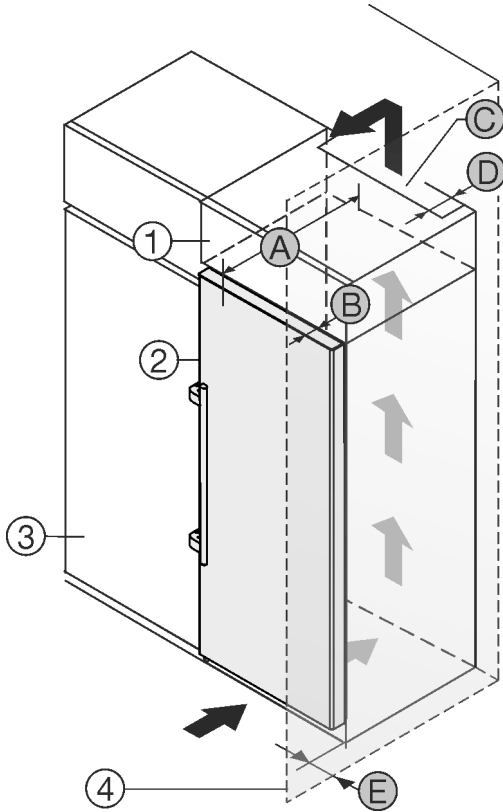

Fig. 2
You can place the appliance directly beside the kitchen cabinet Fig. 2 (3).*
There must be a ventilation shaft at the depth Fig. 2 (D) of the back of the top cupboard over the entire width of the top cupboard.*
The ventilation cross-section Fig. 2 (C) must be maintained under the ceiling.*
If the appliance is set up with the hinges next to a wall Fig. 2 (4), the distance between the appliance and the wall must be at least 57 mm . This is how far the handle protrudes when the door is open.*
In order to be able to fully open the door, the appliance must protrude by the depth of the door Fig. 2 (B) from the front of the kitchen cabinet. The appliance may protrude further depending on the depth of the kitchen cabinets Fig. 2 (3) and whether wall spacers are used.*